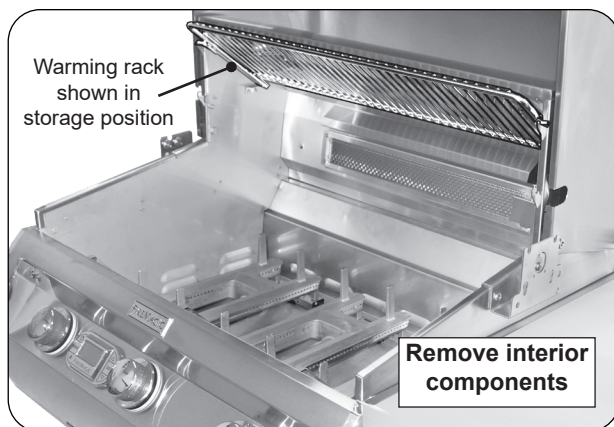

Fig. 41-1 Prepare grill for rotissing
1. Set the warming rack to storage position, remove the backburner cover and cooking grids (see Fig. 41-1).